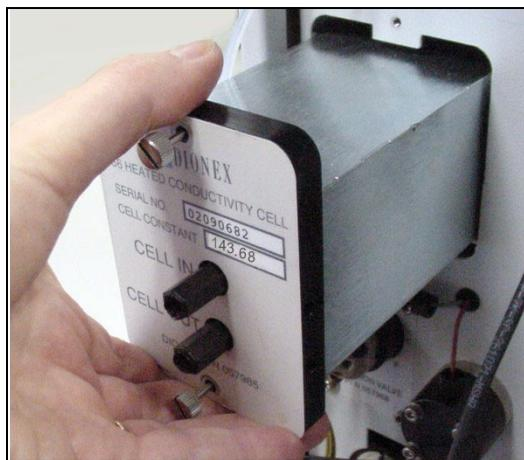

Figure 5-16. Removing the Cell Assembly
4. Continue pulling on the cover until the attached cell assembly slides out the front of the ICS-2000 (see Figure 5-16).